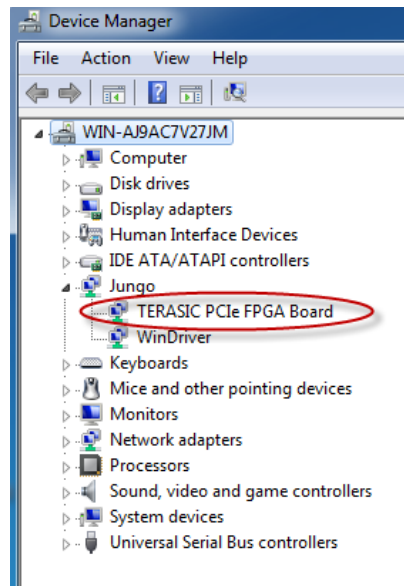

Figure 3-3 Terasic PCIe FPGA board is detected in device manager
8. After Windows 7 restarts, open the Windows 7 Device Manager. The FPGA device can be viewed using the Windows device manager as shown in **Figure 3-3**.